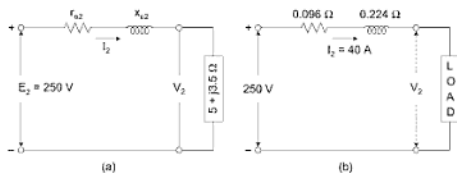
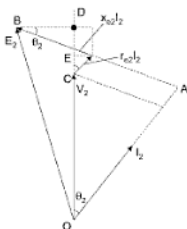

Fig. 5.45
Fig. 5.46
(c) A current of 160 A in the l.v. winding is equivalent to 16 A in the h.v. winding. The equivalent circuit of the transformer, referred to h.v. side is illustrated in Fig. 5.45, from which equivalent leakage impedance referred to h.v. side is $= Z_{e1} = 5.4 + j13$
- All the quantities may be referred to either the h.v. side or the l.v. side. In this question, i.v. winding is the secondary winding since load is connected across it, with all the quantities referred to the l.v. side, the equivalent circuit of Fig. 5.45(a) is obtained, where
- (b) The equivalent circuit with all the quantities referred to l.v. side is given in Fig. 5.45(b) The rated current on the l.v. side is
The phasor diagram for Fig. 5.45(b) is illustrated in Fig. 5.46.